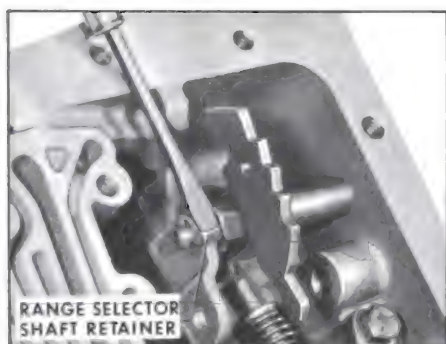

Figure 5-160
2. Remove range selector shaft retainer. See Figure 5-160.